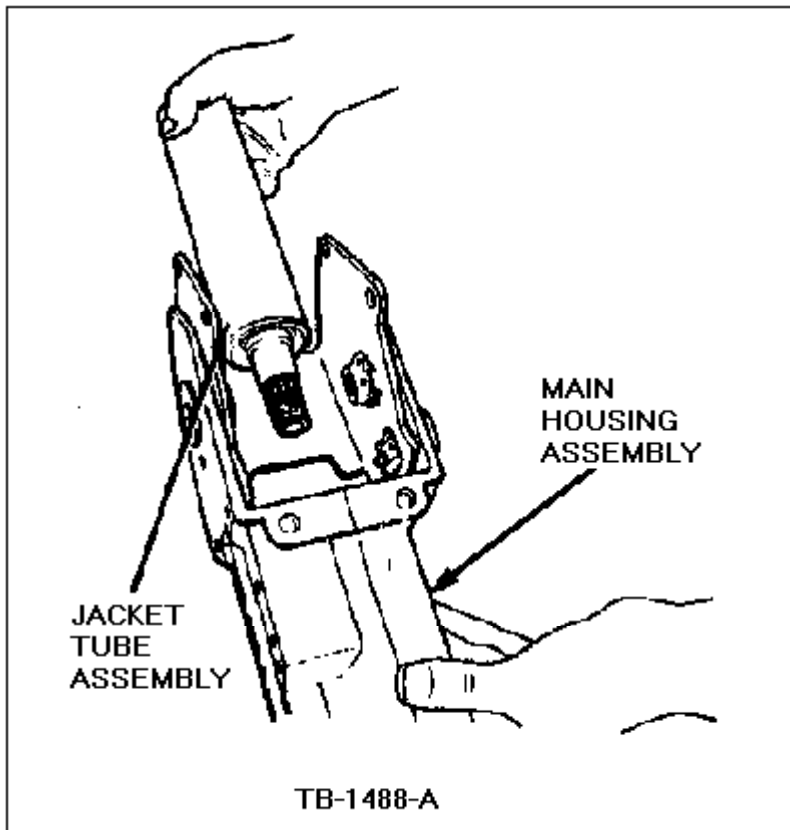

Figure 21 - Article 90-5-10
24. Push the wheel tube and jacket tube assembly out through the lower end of the main housing assembly, Figure 21.